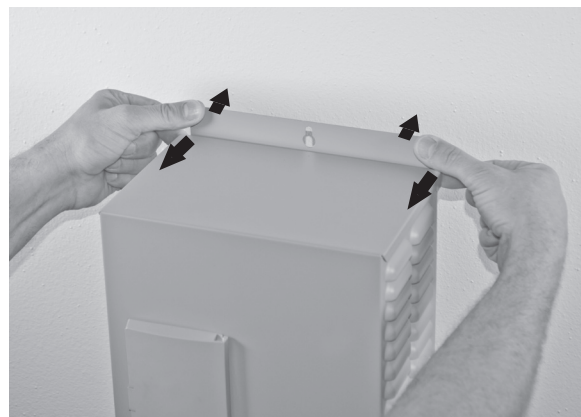

Figure 3 - Separate Cover And Back
2. Push on backplate with thumbs while pulling the cover toward you with index fingers, creating a gap (Figure 3 and 4).